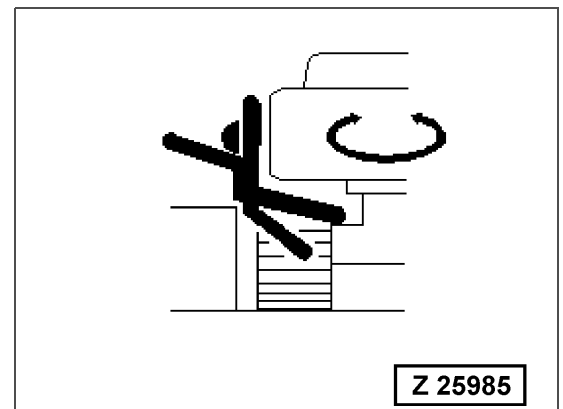

Fig. 2-24
- If there is an area to the rear of the machine which cannot be seen, position a signal person. Take special care not to hit other machines, objects or people when turning or swinging the machine (Fig. 2-24)